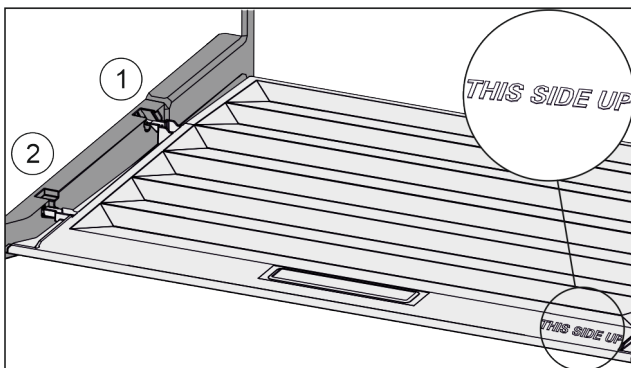

Fig. 57
- ▶ Insert the lip of the cover over the opening of the rear bracket *Fig. 57 (1)* and click into place *Fig. 57 (2)*.